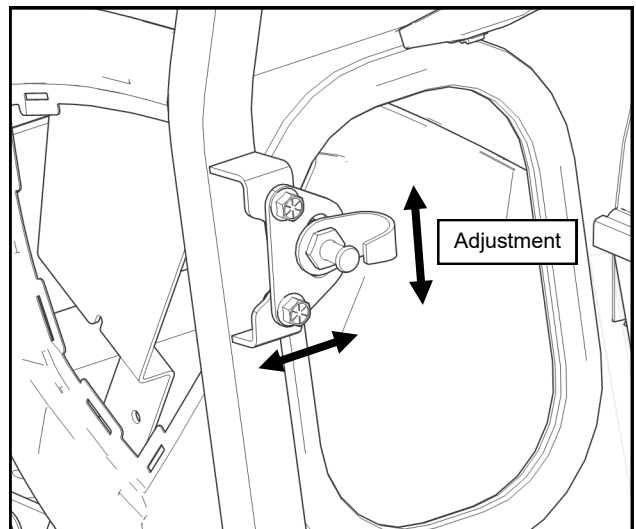

Fig. 27.3 (Striker Pin Adjustment)
- 27.4 Open the door and check for smooth operation of the latch. As noted in step 27.3, the door will likely drop a little bit at the front and the striker pin will need to be adjusted down accordingly. Also make sure the door seal is making contact along the perimeter of the door and the latch clicks twice when closing. If necessary adjust the striker in or out to achieve this (see Figure 27.3).